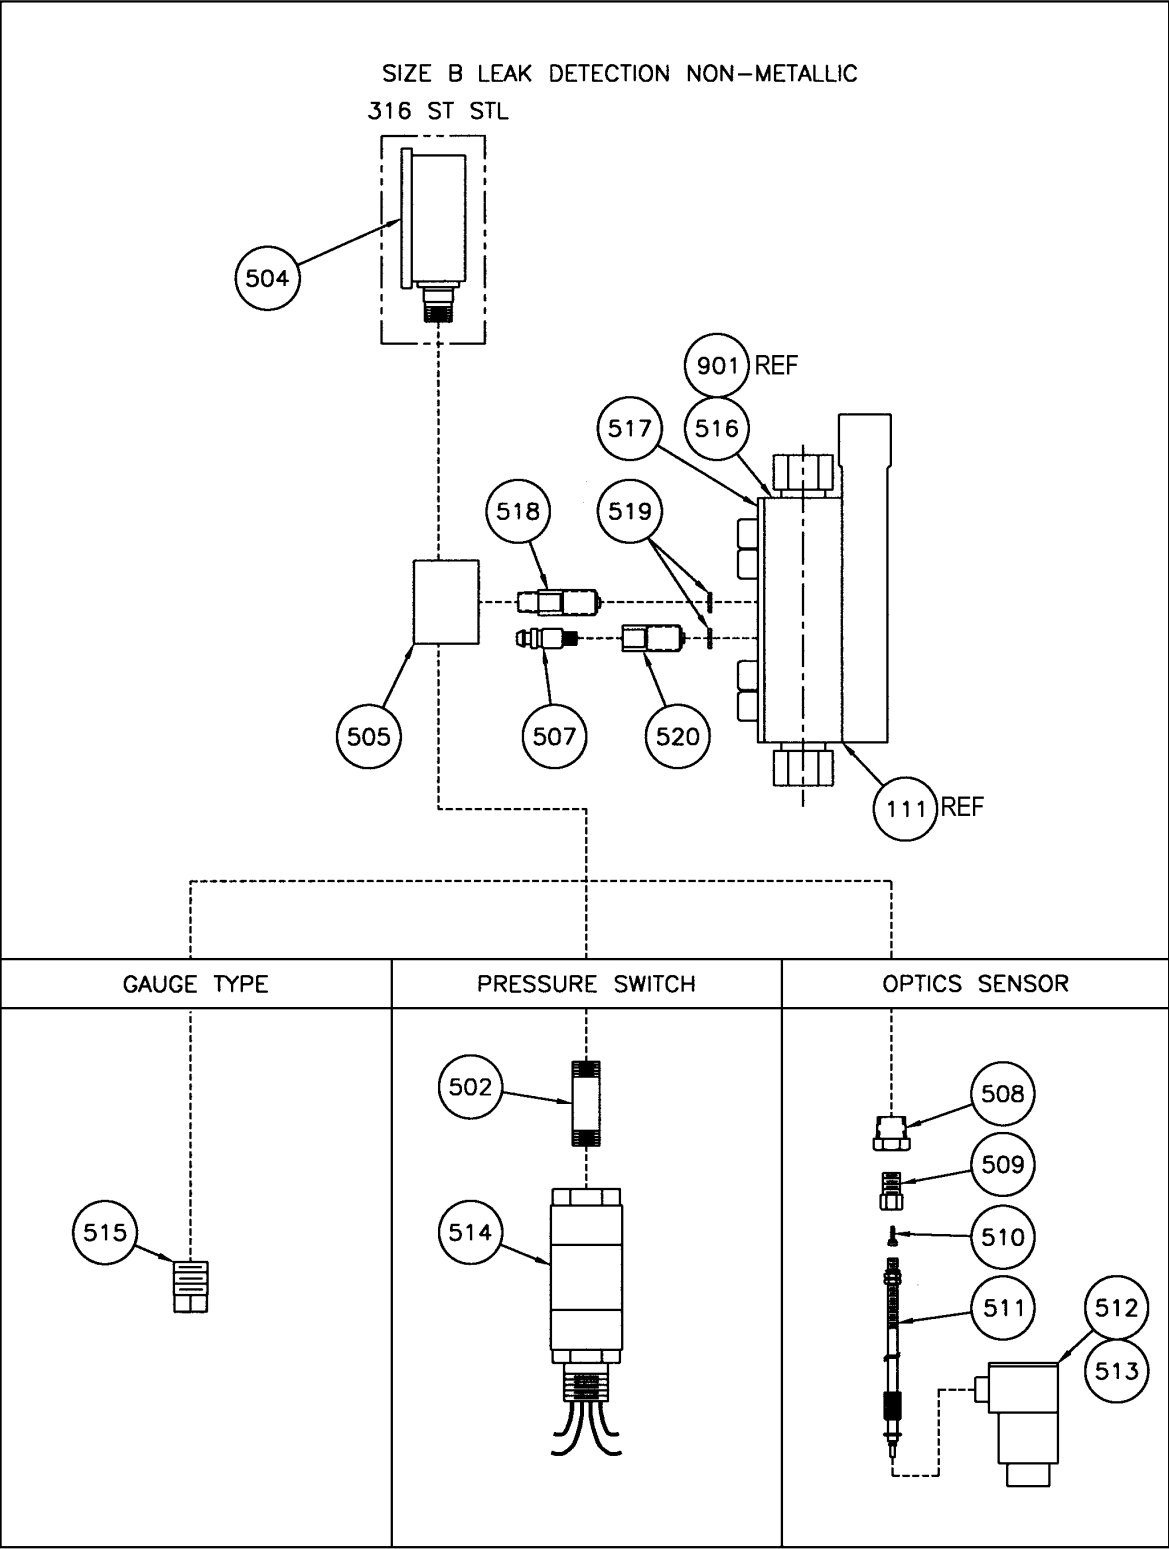

Figure 35. Non-Metallic Leak Detection, Size B.
6.15 NON-METALLIC LEAK DETECTION, SIZE B (PVC & KYNAR) (FIGURE 35)